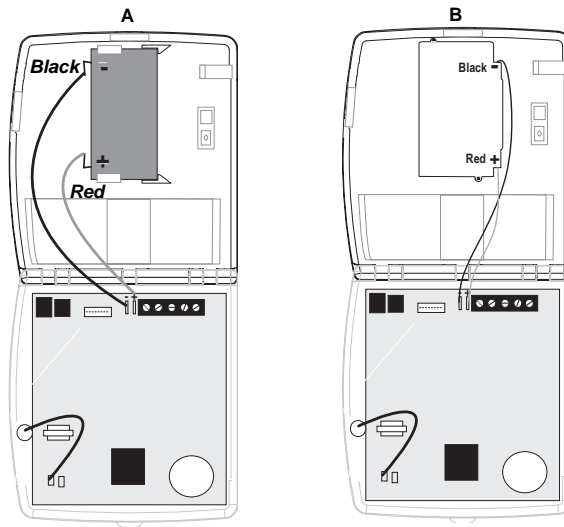

Figure 12. Connecting the Battery Leads to the Battery and Panel Terminals
3. Connect the red and black battery leads (included with panel) to the battery and panel terminals (see Figure 12 A - Open Battery / B - Covered Battery).
Connecting the Battery Leads to the Battery and Panel Terminals (see Figure 12).